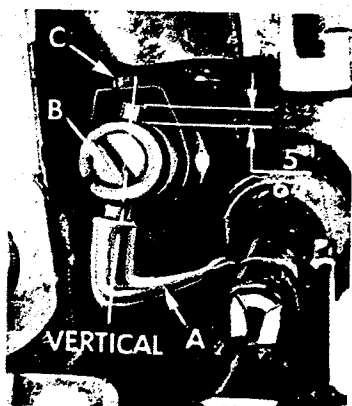

Fig. 6
Insert upper looper (A, Fig. 6) in its holder. Screw (B) holds the looper in its holder and permits looper to be pushed in or out, or turned around its shank. Screw (C) on the collar, holds looper holder in the shaft and allows the holder to be rotated or adjusted laterally.
**Preliminary Setting:** When looper is at the right end of its stroke, looper holder should be set to position the looper shank about vertical (Fig. 6). The top end of the looper shank should extend approximately  $\frac{5}{64}$  inch above holder (Fig. 6).